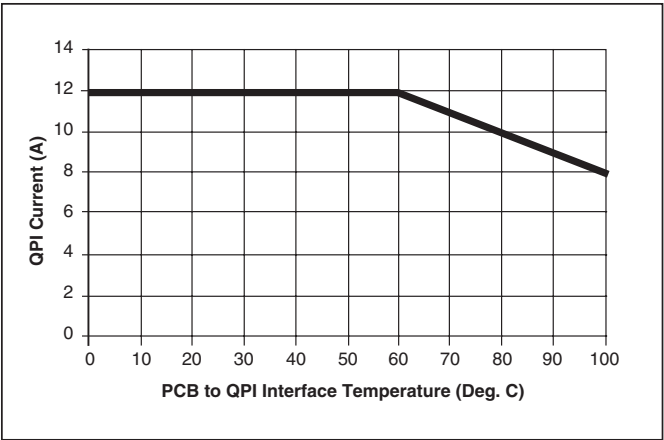
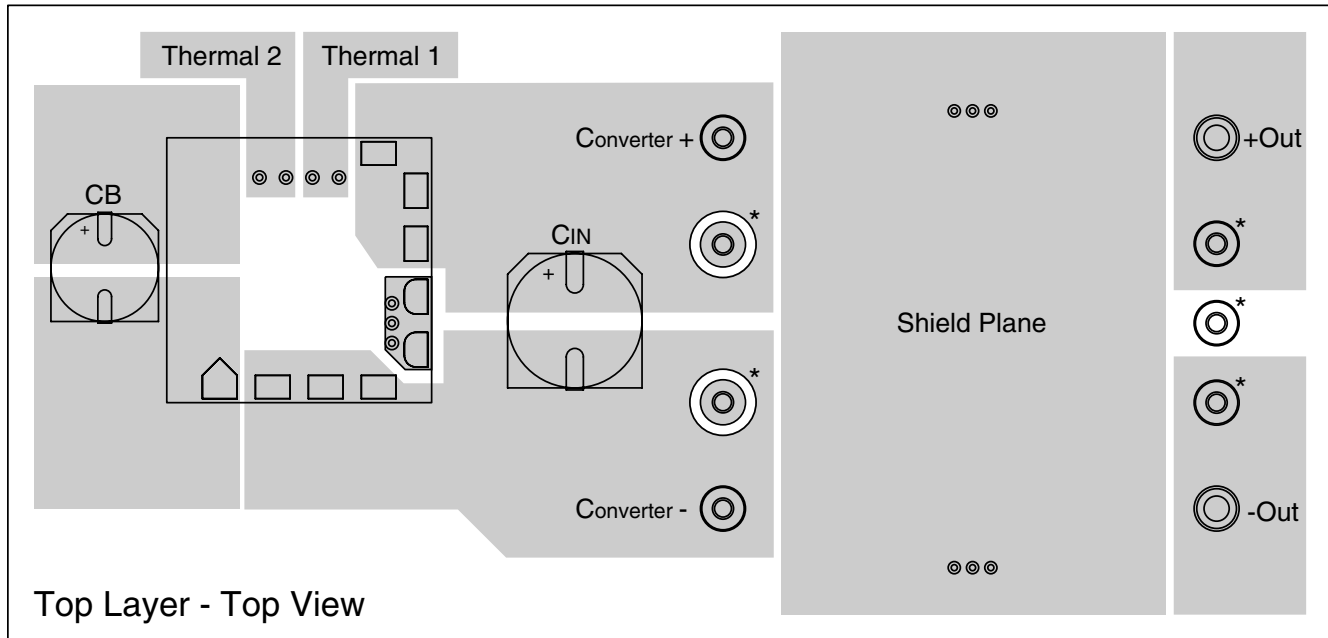

Figure 5 – QPI-2 current derating curve.
Figure 9 – Recommended layout for top layer of PCB. Pattern shows optional pins (*) dependent on converter used in design.
- -40° to +100°C PCB temperature (See Fig. 5)
Note 1 - Refer to Figures 9 & 10 for PCB layout guidelines to achieve this thermal resistance when re-flowed onto the PCB.
Note 2 - Refer to Figure 5 for current derating curve.
Application of the QPI-2 requires PCB layout practices similar to those used with passive EMI filters. The circuit in *Figure 6* and the PCB layout in *Figures 9 & 10* should be used as a design guide to ensure successful application of the QPI-2. Refer to the application note QPI- AN1 for additional PCB layout recommendations.
The current derating curve shown in *Figure 5* should be used when the PCB temperature in close proximity of the QPI-2 exceeds 60°C. For example, the QPI-2 will support up to 10 A of current or 280 W from a 28 Vdc bus at an 80°C interface temperature. Temperature should be measured at the PCB interface to the QPI-2 on the Bus +/- pads or the QPI+/- pads. Refer to *Figures 9, 10 & 12* for PCB layout recommendation.